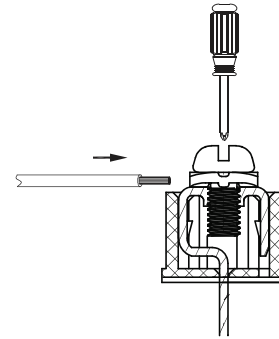

Fig. 31 —Connecting Communication Wire to Outdoor Unit Communication Terminal
3. Use a suitable screwdriver to fix the communication wire on the outdoor unit communication terminal (Fig. 31).